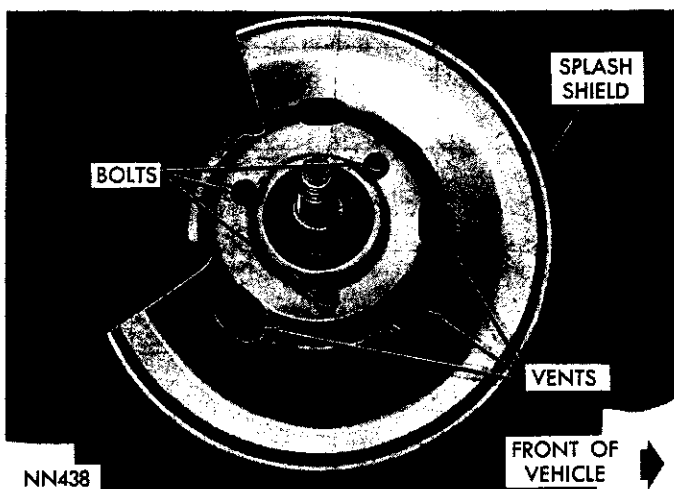

Fig. 16—Disc Splash Shield Mounting
(1) Raise vehicle on a hoist or jackstands.
(2) Remove wheel cover and wheel and tire assembly.
(3) Remove caliper assembly, as described under "Removing Caliper" paragraph. Do not disconnect brake line.
(4) Remove grease cup, cotter pin, nut lock, nut, thrust washer and outer wheel bearing.
(5) Pull braking disc and hub off wheel spindle.
(6) Remove bolts that attach splash shield (Fig. 16) to steering knuckle.
To install the braking disc splash shield, (Fig. 16), proceed as follows: